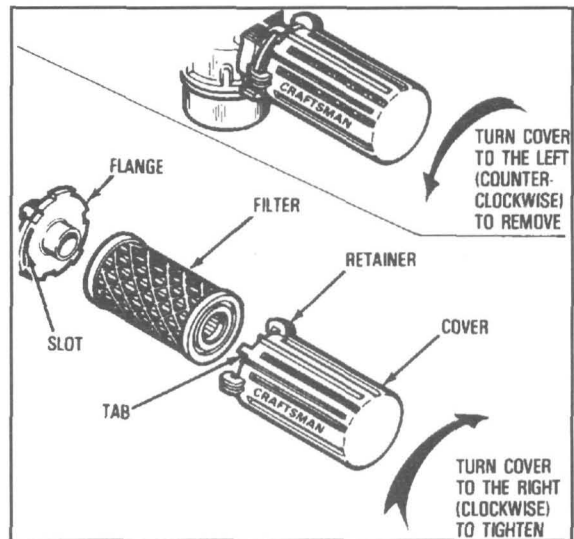

Figure 22: Air cleaner assembly.
The engine is equipped with a paper element air filter. See Figure 22.
B. Turn cover to the left (counterclockwise) and remove cover and filter from flange. Discard filter. See Figure 22.